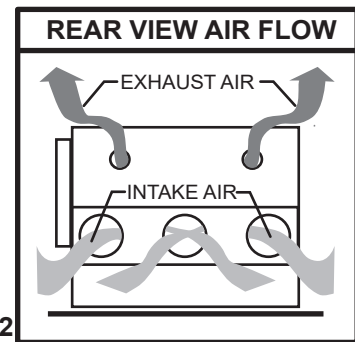

FIG. 2
- Heated exhaust air is expelled through the two small ports located just above rear electrical cover. (FIG. 2) Keep materials or building surfaces that may be susceptible to this heated exhaust air clear from rear area.